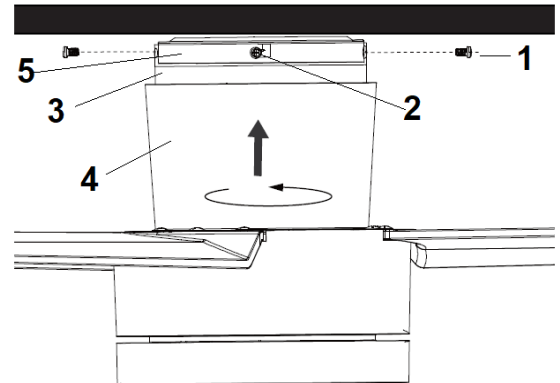

Fig. 9
- Loosen two canopy screws (1) of Fig.9 and remove from the mounting bracket (5).
- Loosen two canopy screws with star washer (2) of Fig.9 by half thread from the mounting bracket (5). (For L-shape slot on canopy to be mounted).
- Lift the hanging canopy (3) of the fan assembly up to the mounting bracket and let the L-shape slot on the hanging canopy go through the two canopy screws with star washer (2), that is half threaded on the mounting bracket. Turn the hanging canopy until it locks in place at the end section of the L-shape slot, ensure the star washer are between the hanging canopy and screw head and secure it by tightening the two canopy screws with star washer (2). Now replace the two canopy screws (1) of Fig. 9 to have additional 2 screws securing the hanging canopy to the mounting bracket. The hanging canopy (3) shall have 4 screws (1) & (2) in total, securing itself onto the mounting bracket (1). Avoid damaging the electrical wiring prepared previously when hanging the canopy.
- Finally attach the canopy cover (4) to the mounting bracket, secure it by pushing the hooks of the canopy